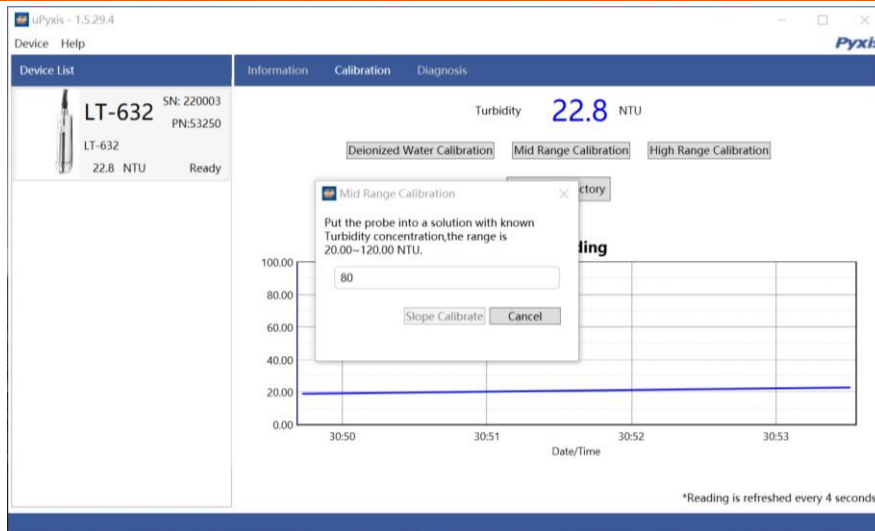

Figure 23 - Mid-Range Calibration
3. Wait until the reading stabilizes and then click the Midpoint Calibration button to calibrate the midpoint to the value of the standard utilized, as shown in Figure 23.